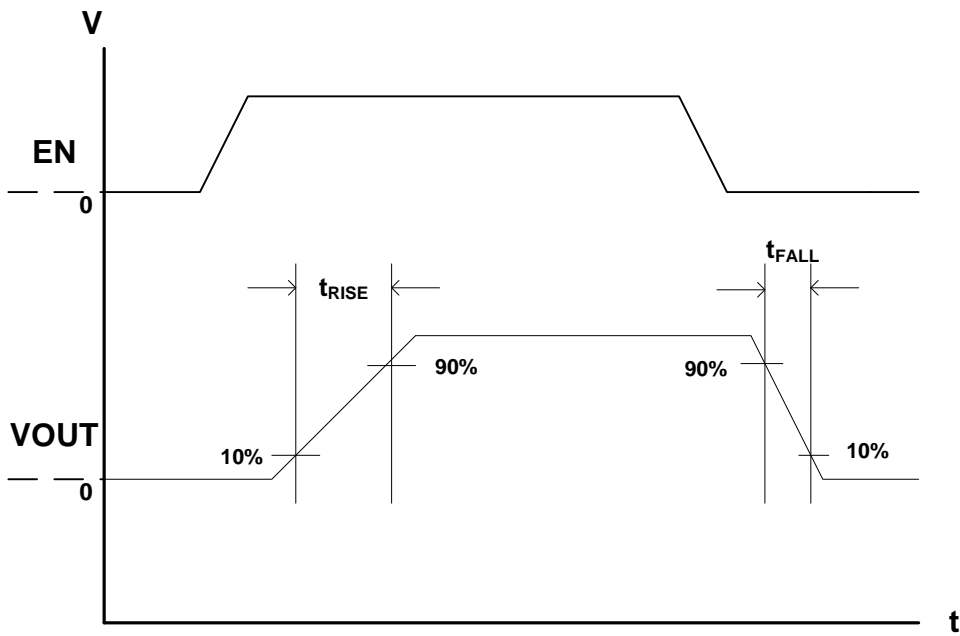

Figure 1. Output Rise/Fall Time
5. See "Timing Diagrams" (Figures 1 through 4).